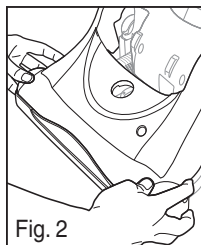

Fig. 2
- 2) Turn vacuum over to front side and remove brush roll cover (Fig. 2).
- 7) Replace brush roll cover (Fig. 2). Turn vacuum over on its backside.
Remove dust cup. Use finger to remove debris from hose connector opening (Fig. 2).